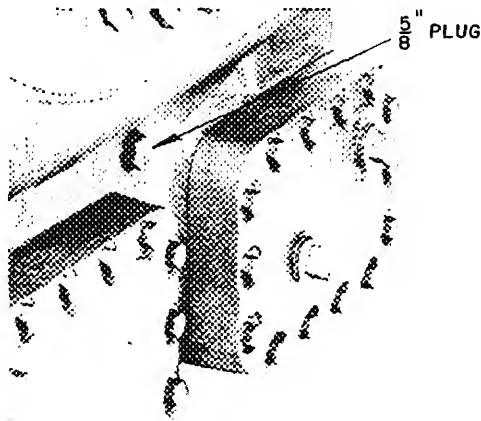

FIG. 37 - 5H80, 120 CENTER MAIN BEARING HOUSING LOCKSCREW LOCATION
Replace with the current sleeve type rotary bellows seal. (Fig. 37 and 38.) A new, matching cover plate must be used on 5F compressors when converting to rotary bellows seal.
2. For the 5H80 and 5H120, remove the center main bearing lock screw located beneath the plug shown in Fig. 37. On the 5H120 disconnect the oil line to the center main bearing housing.
2. Remove the $5/8$ " plug on the side of the crankcase. (See Fig. 37.)